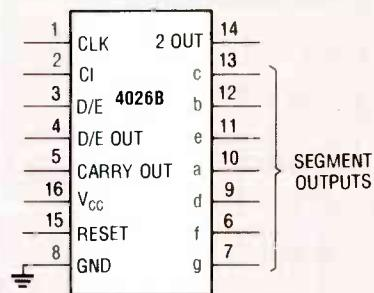

FIG. 21—PINOUT of the 4026B decade counter with 7-segment outputs.
Figure 21 shows the pinout of the 4026B, a complete decade counter with integral decoder/ driver circuitry. It can drive a 7-segment common-cathode LED display directly. The segment output currents are internally limited to about 5 mA with a 10-volt supply or 10 mA with a 15-volt supply. Therefore, the display can be connected directly to the output of the IC without external current-limiting resistors. The 4026B does not include a data latch and is not capable of ripple blanking.
As shown in the Fig. 21, the 4026B has four input control pins and three auxiliary output pins. The input pins are designated: CLOCK (CLK), CLOCK INHIBIT (CI), RESET (RESET), and DISPLAY/ENABLE (D/E). The IC has a Schmitt trigger on its CLOCK (CLK) input line, and clock signal